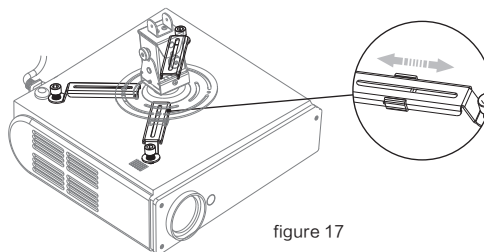

figure 17
2. Install the required installation arms (4-3) to Installation bracke (4-1) And then, installation arms(4-3) to the projector, and then connect the installation arms (4-3) to the installation base (4-6) However, the installation base needs to be the center of projector. Figure 17